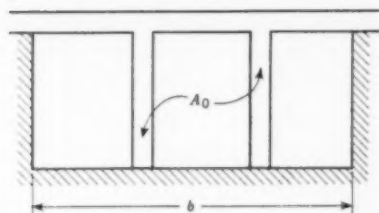
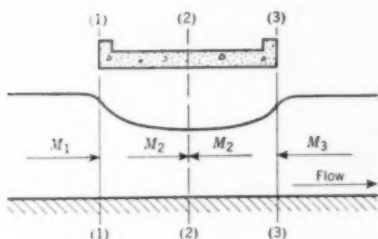

FIG. 1. Cross section of channel normal to flow immediately above bridge piers is shown by diagram.
FIG. 2. Longitudinal section along center line of channel indicates three locations: (1) immediately upstream, (2) under bridge, and (3) immediately downstream.
A cross section of the channel normal to the flow immediately above the bridge piers is shown in Fig. 1, and a longitudinal section along the center line of the channel in Fig. 2. Ordinarily the water surface elevations are required at three locations: (1) immediately upstream, (2) under the bridge, and (3) immediately downstream.
The problem of computing the lengths of BM and CE still remains. Consider Fig. 2(a). Here OL and LA represent the latitude and departure, respectively, of point A , and OJ and JB the latitude and departure of point B . Therefore HA and HB are
Consider Fig. 2(b), in which OD and DC represent the latitude and departure, respectively, of point C ; and AP and PC the latitude and departure differences between points A and C . Projecting AP and PC on to CE , we observe that: